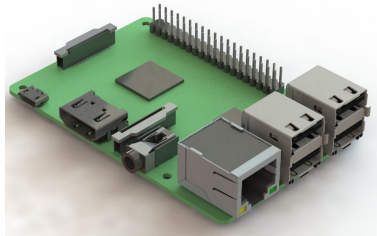

Figure 11: The figure depicts the mini computer Raspberry Pi.
- The upgrade kit includes a mini computer (see Fig. 11) with SD card, RPI connector and patch cable.